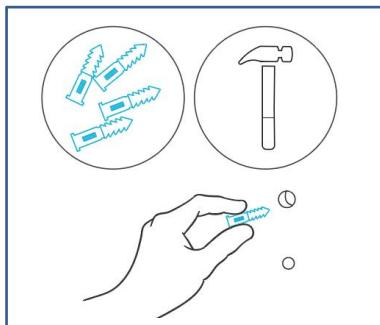

Fig.5.
- 1、If you are mounting onto anything other than wood support or stud, insert the included four wall anchors into the drilled mounting holes. You may need to use a hammer to secure them through the holes. See the (Fig.5.)